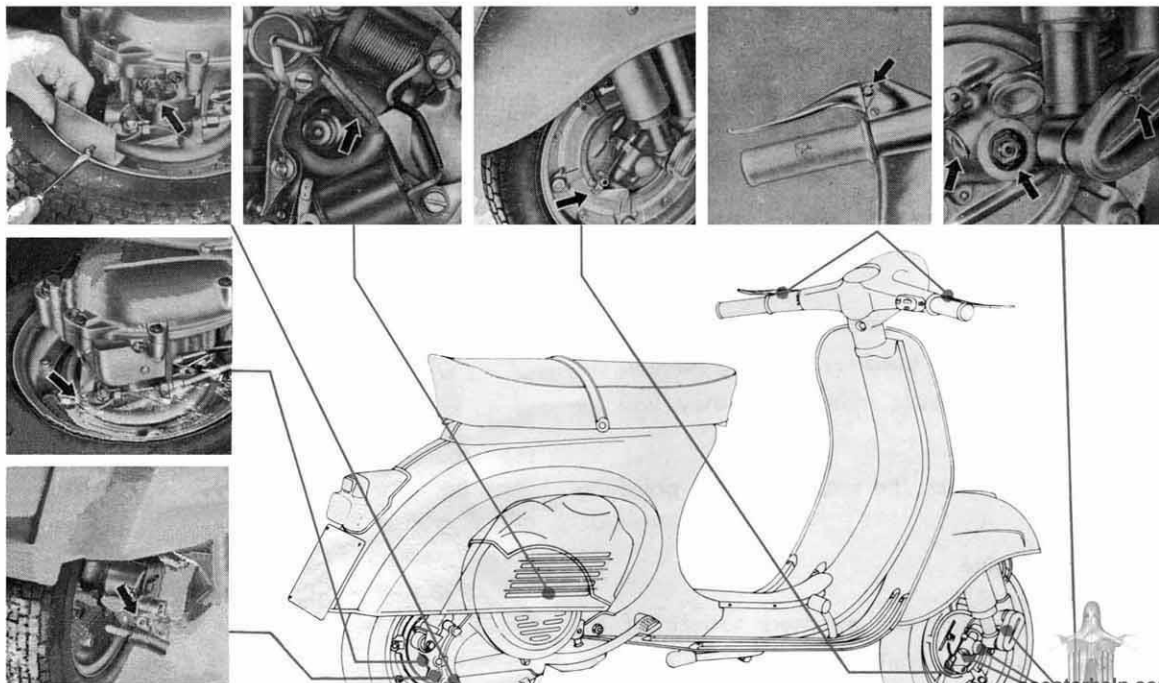

Fig. 18 - Lubrication scheme
6) - Clean and grease the nipple of the front suspension (first detail, R. H. on fig. 18); remove the rubber plug of said suspension (fig. 18) and refill with grease the concerning housing.